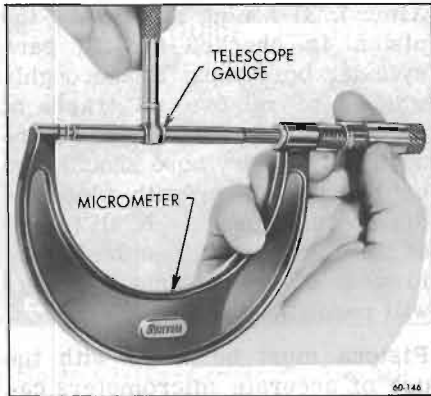

Figure 60-332—Measuring Telescope Gauge
2. Measure the telescope gauge. See Figure 60-332.